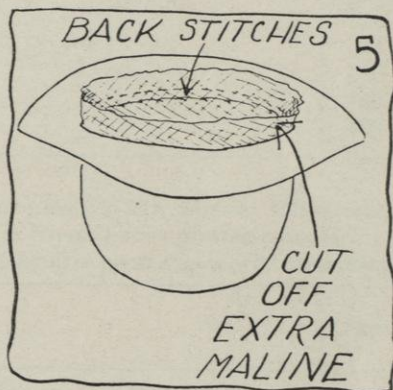

FIG. 5.
(b) Hold the crown tip in place in the crown until the paste is dry. Be sure that the name can be read from the front (see Section 5 a, above and Figure 5 A).
- b. Turn back the end of the bias strip about $\frac{1}{2}$ inch to the wrong side of the lining (see Figure 5 A, page 300).
- c. Pin the turned-back end of the bias strip to the hat a little to your left of the back of the hat, and a little below the headsize line, so that the raw edge of the bias will be about $\frac{1}{4}$ inch below the headsize line (see Figure 5 A, page 300).
- d. Place another pin about 3 inches from the first one to hold the lining in place until you sew it (see Figure 5 A, page 300).
- e. Drop the hemmed edge of the lining down into the crown of the hat to see if you have started it in the right place. The middle of the slanting end of the lining should be at the direct back of the hat (see Figure 5 B, page 300).
- b. Slip steamed lining into crown, so that it fits into every curve of the crown and then pin it in place (see Figure 5). **Do not turn down the raw edges.**
- c. Backstitch lining in place (see Figure 5).